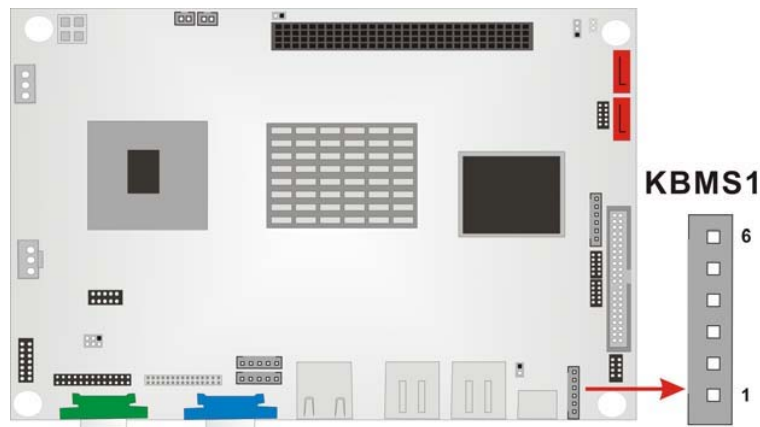

Figure 3-15: Keyboard/Mouse Connector Location
- CN Location:** See Figure 3-15